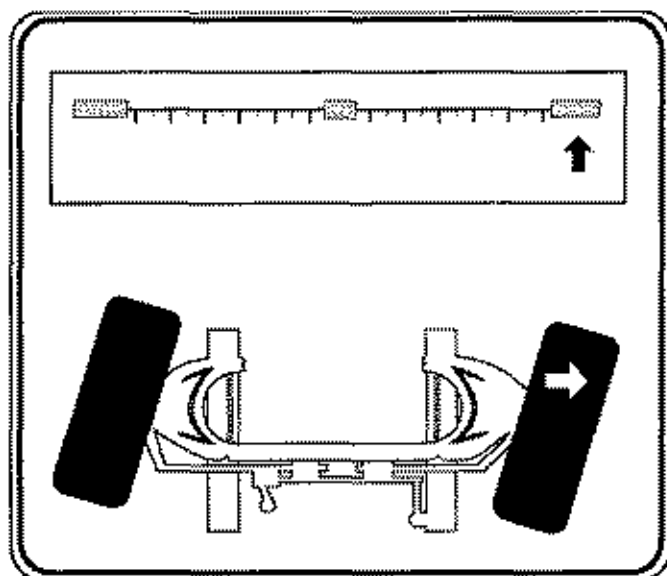

Figure 2-14
- Turn the steering wheel to the right until the arrow is centered in the range bar on the right side of the meter (see Figure 2-14). Wait while the alignment machine takes readings.